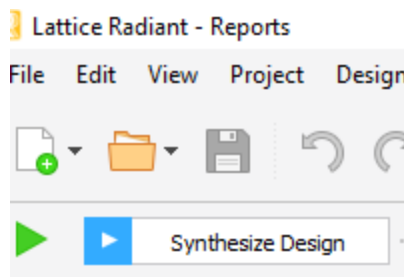

Figure 3.2. Synthesizing Design
5. Upon generating desired design, you can synthesize it by clicking **Synthesize Design** located in the top left corner of the screen, as shown in Figure 3.2.